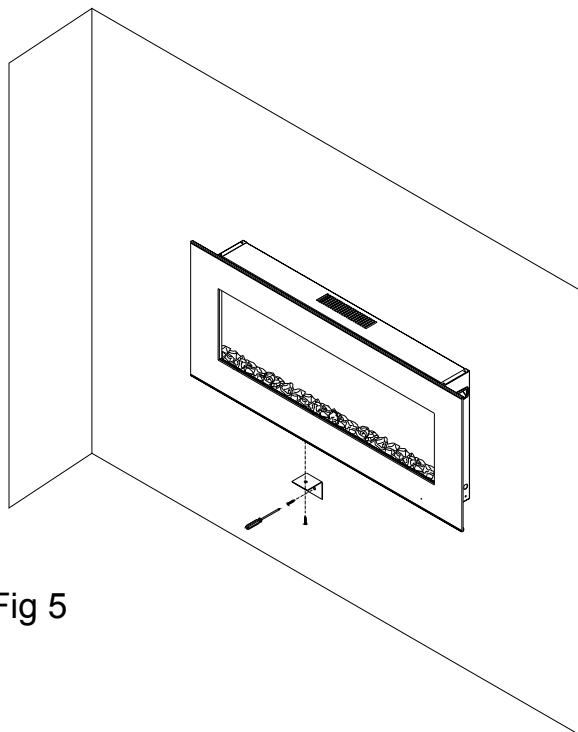

Fig 5
6. Referring to Fig. 5, avoid fireplace to move,use screw fix fireplace to wall ;